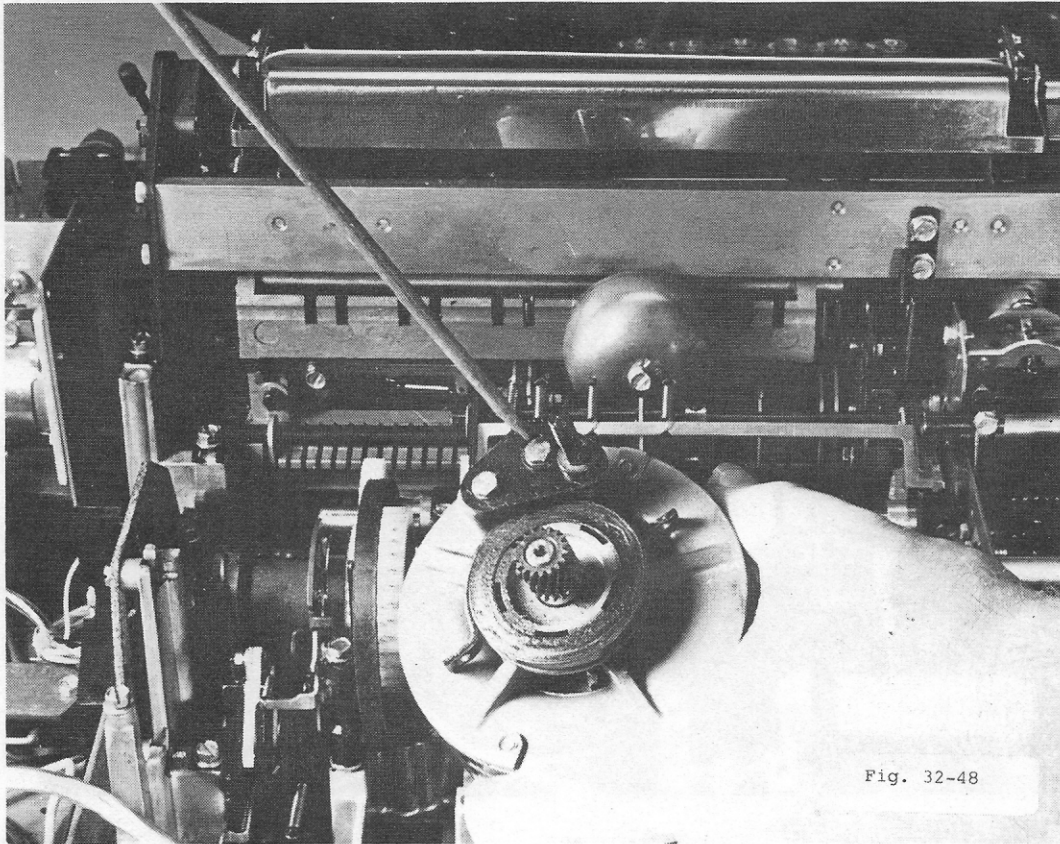

Fig. 32-48
5. When replacing gears, make sure that gear and pinion are meshed NOT TOO LOOSE or TOO TIGHT. Refer to Fig. 32-47. Adjustment can be made by referring to Fig. 32-48.